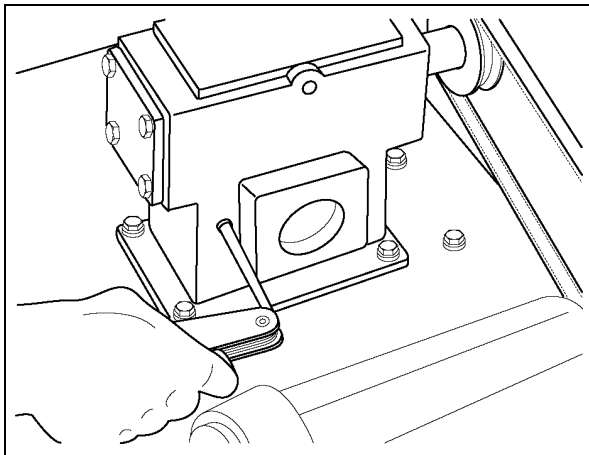

Figure 7J
- Check the oil level in the gearbox by removing the plug and noting if the oil is at this level. Add SAE 80-90 gear lubricant if required. (See Figure 7J)